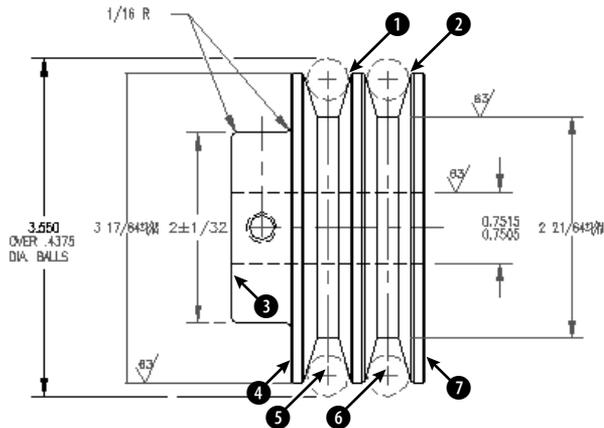

Figure 14-30: You can use Quick Dimension to dimension the circles and create continuous dimensions.
2. Save the file as `ab14-07.dwg` in your AutoCAD Bible folder. This is the same drawing you used in the previous exercise, except that some of the dimensions have been removed (see Figure 14-30). OSNAP should be turned off. If the Dimension toolbar isn't displayed, right-click any toolbar and choose `Dimension`.
Select geometry to dimension: *Pick the circle at 1 in Figure 14-30.*
Select geometry to dimension: *Pick the circle at 2 in Figure 14-30.*
Select geometry to dimension: *Pick the line at 3 in Figure 14-30.*